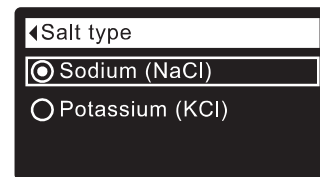

FIG. 94
5. Press the SELECT (O) button to display the Salt type menu (See Figure 94).
6. If the desired salt type already has a black dot next to it (See Figure 94), go to Step 7. Otherwise, press the conditioner’s DOWN (▼) or UP (▲) buttons to scroll to the other salt type, then press SELECT (O) to choose it.
7. Press the SELECT (O) button. The display will go back to the Salt settings menu.